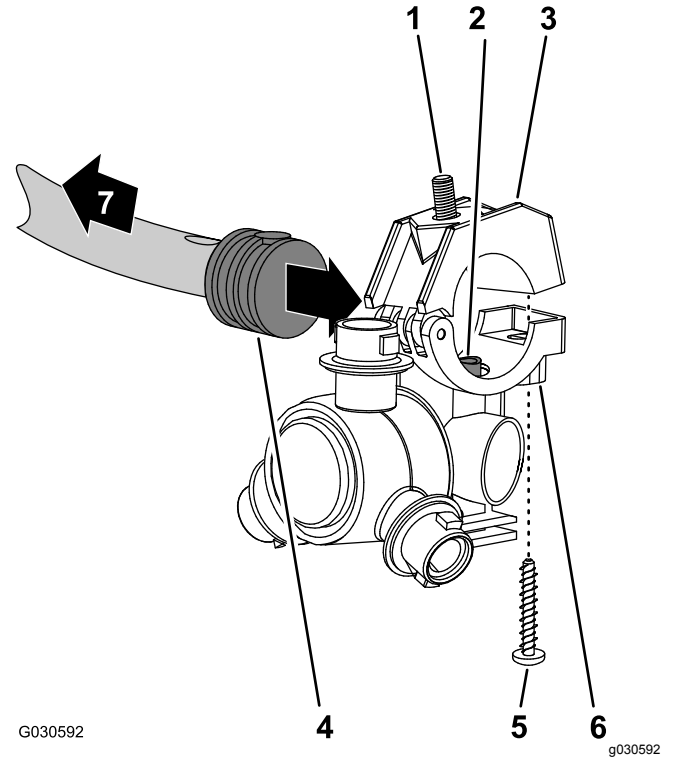

Figure 77
1. Working with the sprayer nozzle that you removed in 12 Removing the Sprayer-Nozzle Hoses for the 3-Section System (page 31), align the transfer tube in the saddle of a sprayer nozzle (Figure 77) with the hole in the side of the single barbed-hose shank (1/2 inch).
2. Close the upper clamp half around the barbed-hose shank and secure the clamp half and spray-nozzle body (Figure 77) with the stainless steel screw (#12 x 1-1/4 inches); torque the stainless steel screw to 226 to 282 N·cm (20 to 25 in-lb).